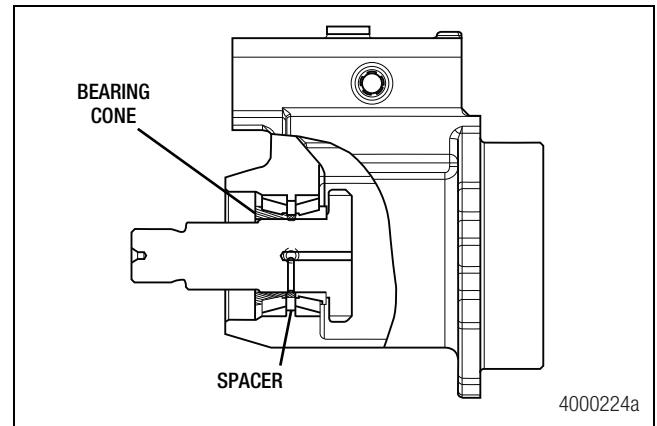

Figure 8.10
- d. With the bearing spacer in position, preheat the second bearing cone to 200°F (93°C) using an oven or inductive bearing heater and install it onto the shaft. Figure 8.10.